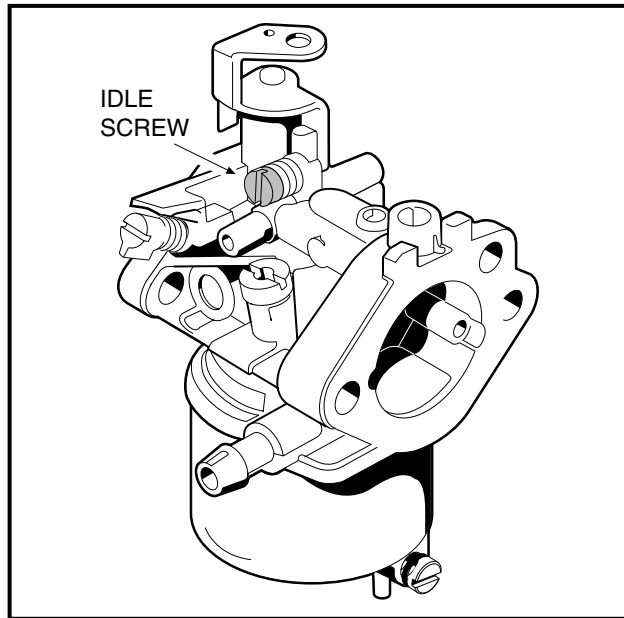

Figure 14-8 Idle Screw
1. With the engine running and the Forward/Reverse handle in NEUTRAL, position a tachometer (CC 1016112) close to the spark plug wire and plug, and adjust the low idle screw on the carburetor until the tachometer reads 1200 to 1250 RPM (**Figure 14-8, Page 14-10**).